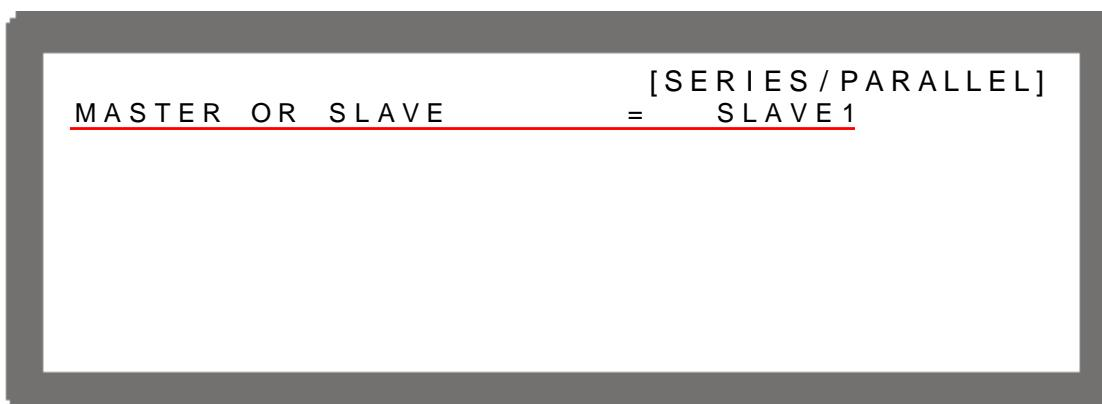

Figure 3-37
- Use the numeric (**1**~**4**) keys or “Rotary” () knob to set SLAVE1~SLAVE4 as Figure 3-37 shows.